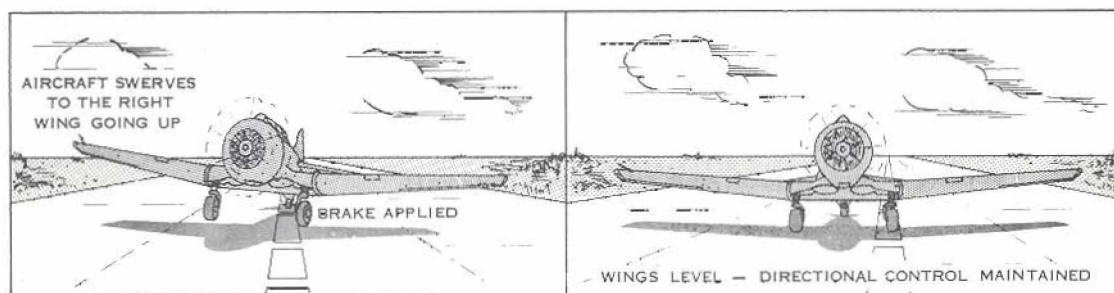

Figure 7: The Use of Brake to Lower a Wing
(7) A wing can rise either because of a cross-wind or because you have lost directional control temporarily, and the aircraft is swerving. If it is obvious that aileron is having no effect and the wing is continuing to rise, move your foot up to the brake pedal and brake the wheel under the LOW wing. (Figure 7) The resulting swerve exerts a force through the centre of gravity and brings the wings back to the level position. Naturally, you must regain directional control as soon as possible. If the wing rise is accompanied by a swerve, the brake application should be slightly more severe, to lower the high wing and counteract the swing.